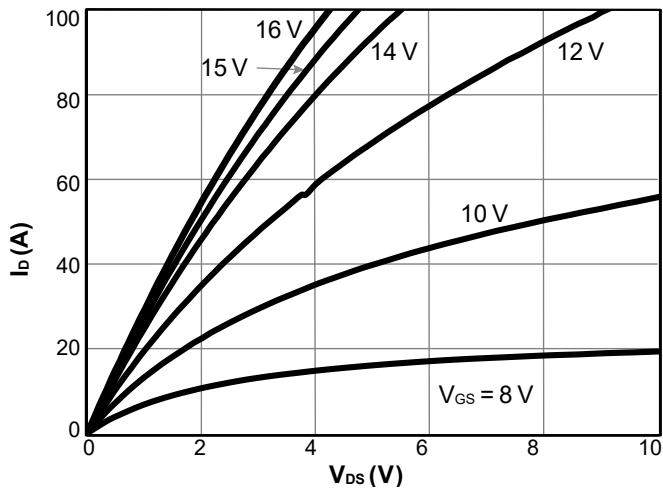

Figure 1. On-Region Characteristics $T_J = 25^\circ\text{C}$
- H. The static characteristics in Figures 1 to 8 are obtained using <300 ms pulses, duty cycle 0.5% max.